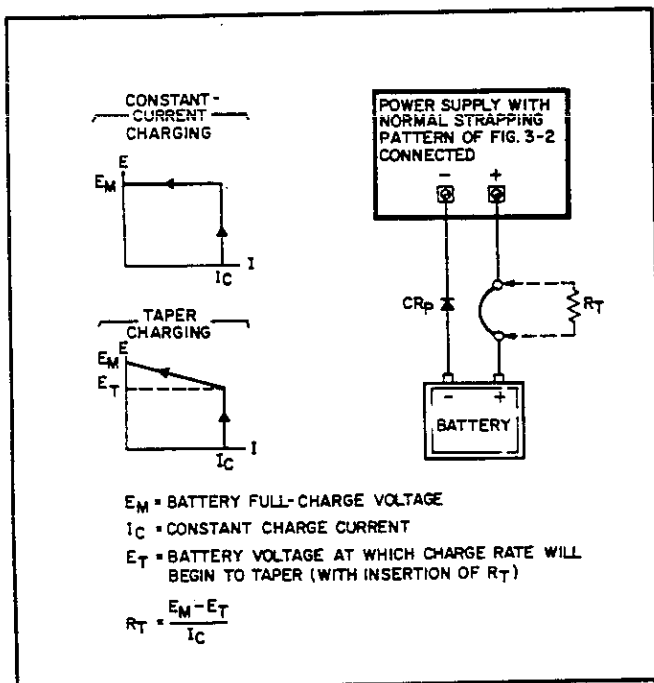

Figure 3-14. Battery Charging
Any time these supplies are used to charge a battery, be sure to install a protective diode CR_p in series with the battery as shown in Figure 3-14 to prevent the battery from discharging into the supply if the supply is turned off. Extensive damage to the supply could result if this diode were omitted.
- b. Connect a short circuit across the output terminals and rotate the VOLTAGE control fully clockwise (CW).
e. Adjust the VOLTAGE control for an output voltage 0.7 volts greater than the desired full charge voltage. (The added 0.7 volts compensates for the drop across CR_p.) The supply may then be connected to the battery terminals, positive to positive and negative to negative as shown in Figure 3-14 (omit R_T).
3-82 Taper Charge. When charging lead-acid cells, many manufacturers recommend that the charging current be reduced as the charge nears completion. This can be accomplished by inserting a small resistance (R_T) in series with one of the load leads from the supply to the battery. (See Figure 3-14.) This resistor alters the normally rectangular charging plot in such a manner as to provide a taper charge for the last portion of the charge. The proper value for this resistor is the difference between the full charge voltage and the voltage at which the tapering is to start, divided by the initial charging current. Set the initial charging rate and full charge voltage as instructed in paragraph 3-81.